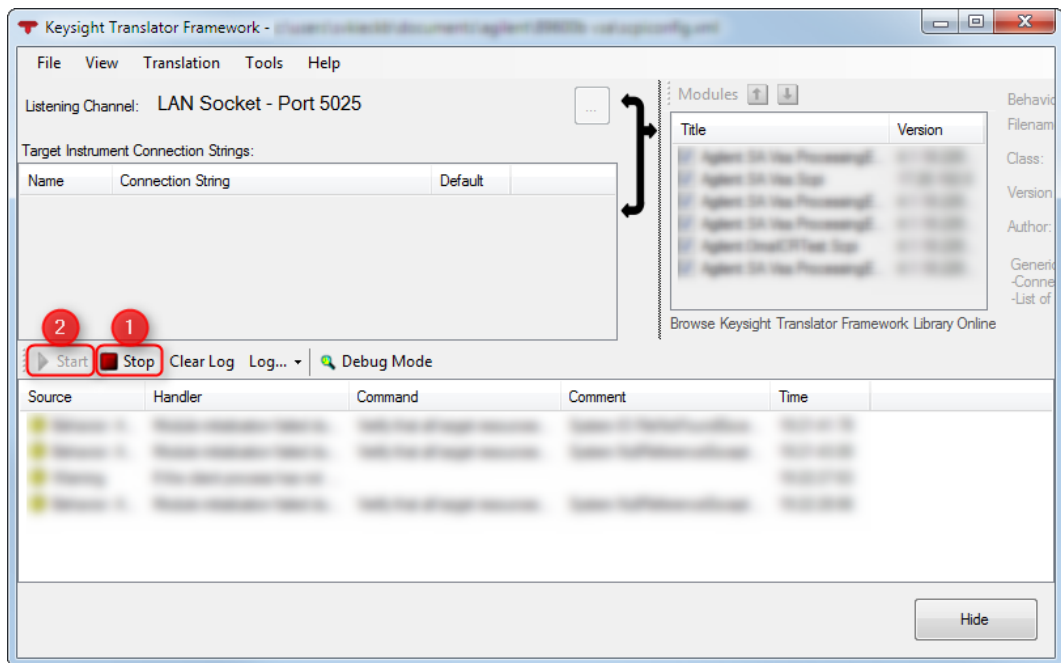

Figure 11 Keysight Translator Framework
Should the 81196A OMG software become unable to communicate with the 89601B VSA, a SCPI server restart may be required. This can be done by double-clicking the red Keysight Translator Framework icon in the system tray, then pressing the Stop button (1), followed by the Start button (2) in the Keysight Translator Framework user interface, as shown in the Figure 11 on page 56: